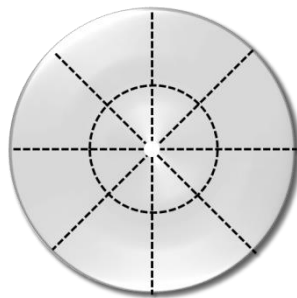
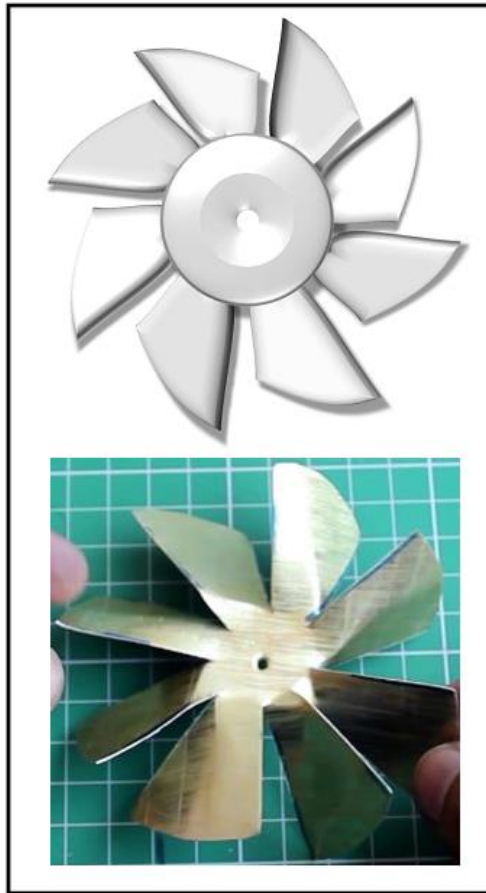

Figure 21
Figure 22
- On the disc, draw a smaller circle of radius about 1 cm, and then using a marker draw diameters as shown in Fig. 21.
- Using a pair of scissors cut along the dashed lines until we meet the dashed circle as shown in Fig. 21. The purpose of this step is to create the wings of the fan. In the next step twist the fins, by a small angle in order to construct the fan (see Fig. 22). Twist the wings means all the wings in the same direction as shown in Fig. 22.